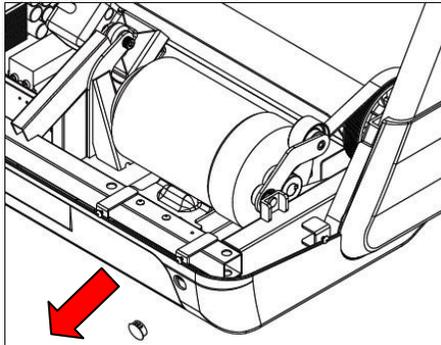

Figure 4.3.2
- 3) As shown in figure 4.3.2, remove the cover button.